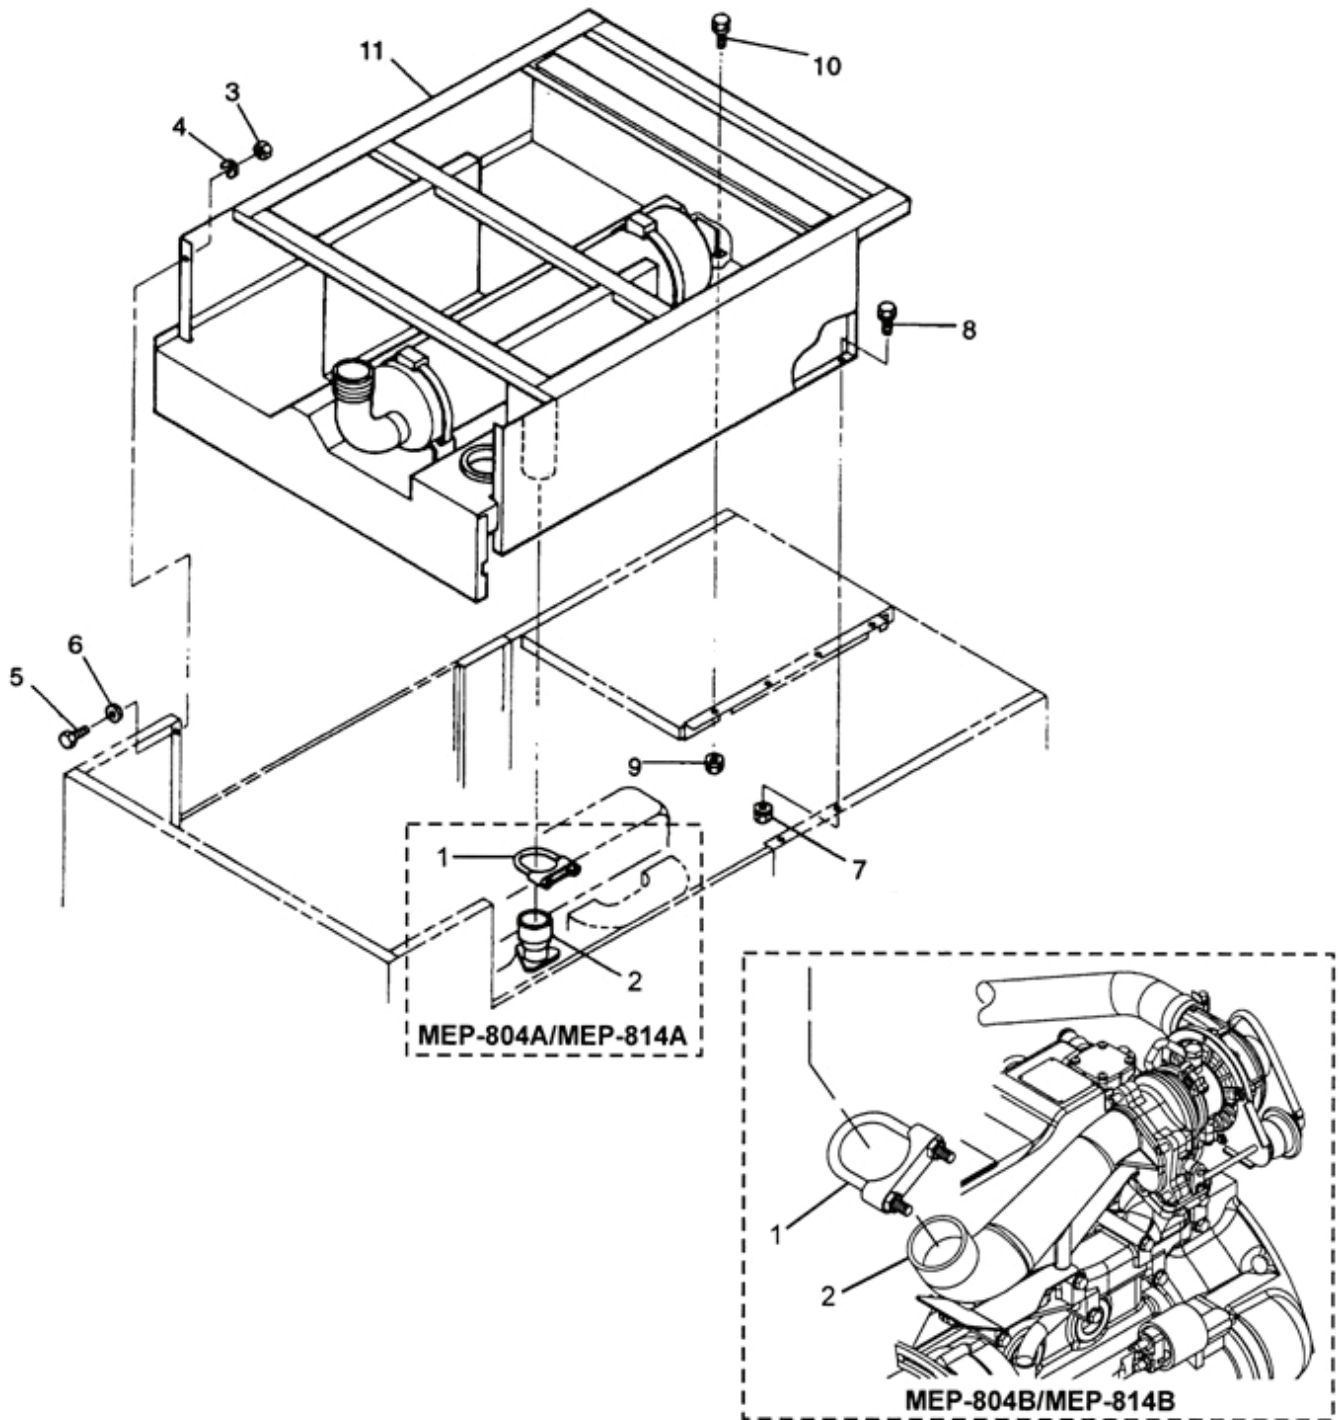
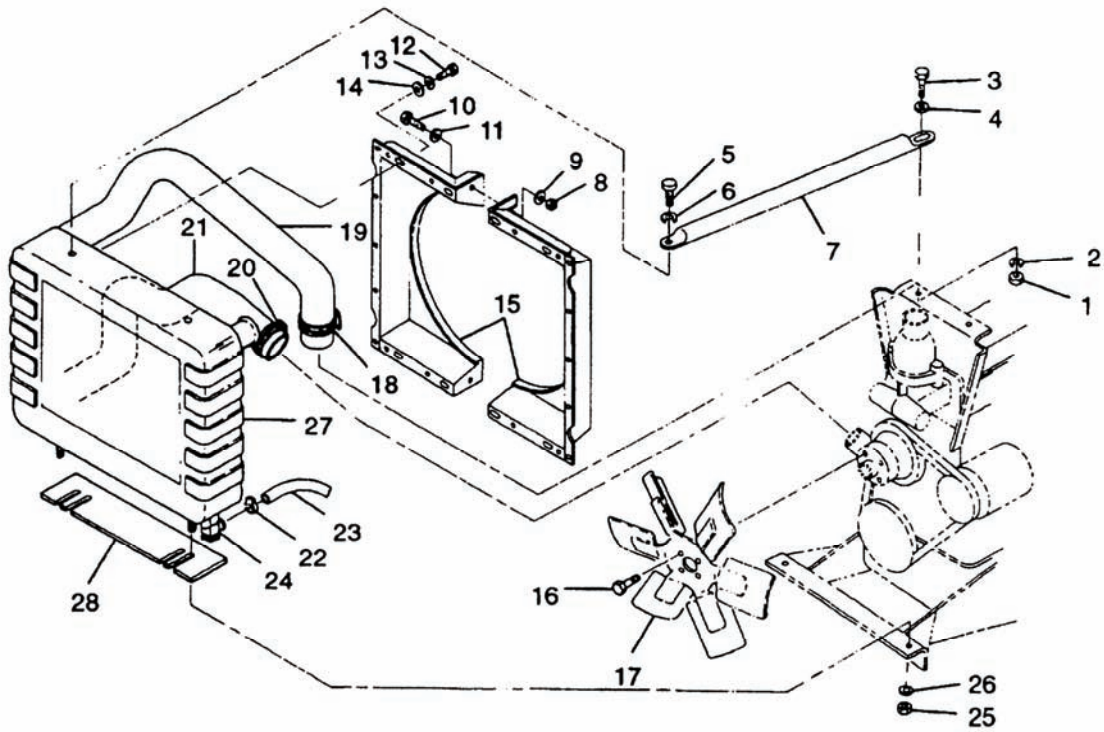
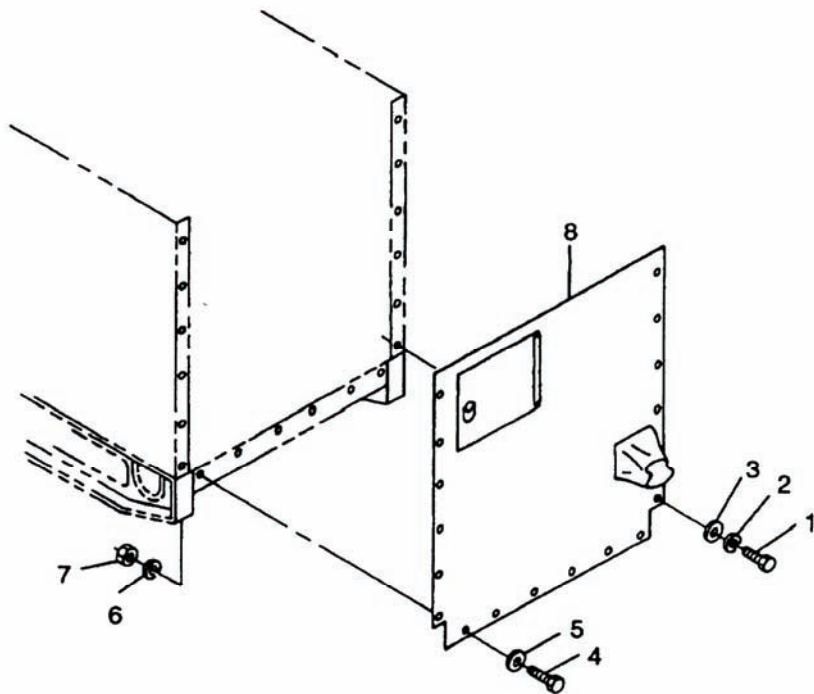
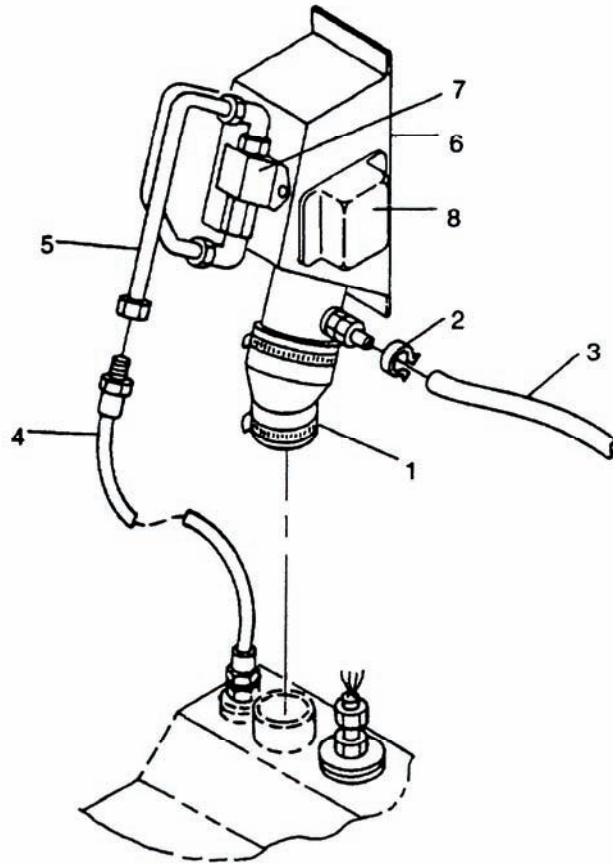

Figure 3-7. Top Housing Assembly.
Figure 3-8. Radiator Assembly, Shroud and Fan – MEP-804A/MEP-814A.
Figure 3-9. Rear Housing Panel.
Figure 3-10. Fuel Filler Panel Assembly.
- m. Remove exhaust pipe clamp (1, Figure 3-7) at exhaust manifold adapter (2).
- n. Remove nuts (3), lock washers (4), washers (6), and bolts (5) securing top housing assembly (11) to front housing. Discard lock washers (4).
- o. Remove assembled nuts (7) and bolts (8) securing top housing assembly (11) to rear side panels.
- p. Remove assembled nut (9) and bolt (10) securing top housing assembly (11) to output box angle.
- q. Using a lifting device, remove top housing assembly (11).
- s. Remove nuts (1, Figure 3-8), lock washers (2 and 6), bolts (3 and 5), washers (4), and support rods (7) from engine lifting bracket and radiator assembly (27). Discard lock washers (2 and 6).
- t. Remove bolts (10 and 12), washers (11 and 14), lock washers (9 and 13), nuts (8), and shroud halves (15) from radiator assembly (27). Discard lock washers (9 and 13).
- u. Remove bolts (16) and fan (17) from water pump.
- v. Loosen clamp (18) at thermostat housing and disconnect hose (19).
- w. Loosen clamp (20) at water pump and disconnect hose (21).
- x. Remove clamp (22) at radiator drain valve (24) and disconnect hose (23).
- y. Remove nuts (25) and washers (26) securing radiator assembly (27). With aid of an assistant, remove radiator assembly (27) and shims (28).
- z. Remove bolts (1 and 4, Figure 3-9), washers (3 and 5), lock washers (2 and 6), nuts (7), and rear housing panel (8) from generator set. Discard lock washers (2 and 6).
- aa. Loosen clamp (1, Figure 3-10) securing fuel filler panel assembly (6) to fuel tank. Cap openings.
- ab. Loosen clamp (2) and disconnect hose (3) from fuel filler panel assembly (6). Cap openings.
- ac. Disconnect fuel hose (4) from fuel line (5). Cap openings.
- ad. Tag and disconnect auxiliary fuel pump (7) and fuel float module (8) electrical connectors.
- ae. Connect auxiliary fuel pump (7, Figure 3-10) and fuel float module (8) electrical connectors. Remove tags.
- af. Remove caps and connect fuel hose (4) to fuel line (5).
- ag. Remove caps and connect hose (3) to fuel filler panel assembly (6) and tighten clamp (2).
- ah. Remove caps and connect fuel filler panel assembly (6) to fuel tank and tighten clamp (1).
- ai. Install rear housing panel (8, Figure 3-9) on generator set with bolts (1 and 4), washers (3 and 5), new lock washers (2 and 6), and nuts (7).
- aj. With aid of an assistant, position radiator assembly (27, Figure 3-8) and shims (28) in generator set and secure with nuts (25) and washers (26).
- ak. Connect hose (21) to water pump and tighten clamp (20).
- al. Connect hose (19) at thermostat housing and tighten clamp (18).
- am. Connect hose (23) at radiator drain valve (24) and install clamp (22).
- an. Install fan (17) on water pump with bolts (16). Torque bolts to 24 ft-lbs (33 Nm).
- ao. Install shroud halves (15) on radiator assembly (27) with bolts (10 and 12), washers (11 and 14), new lockwashers (9 and 13), and nuts (8).
- ap. Install support rods (7) to radiator assembly (27) and front engine lifting bracket with bolts (3 and 5), washers (4), new lock washers (2 and 6), and nuts (1).